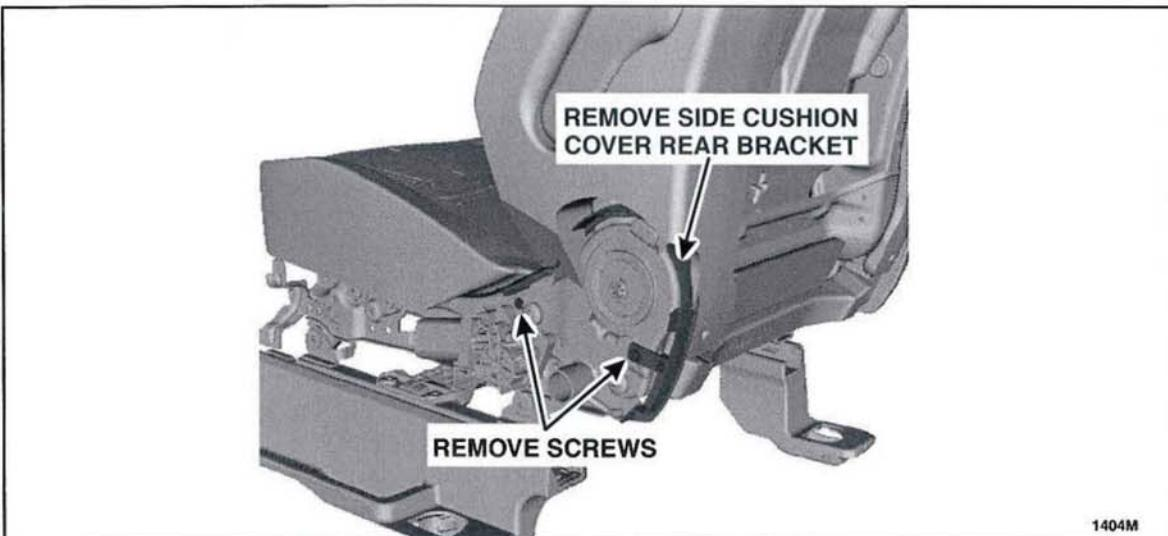

FIGURE 13
14. Remove the two screws and the side cushion cover rear bracket. See Figure 13.